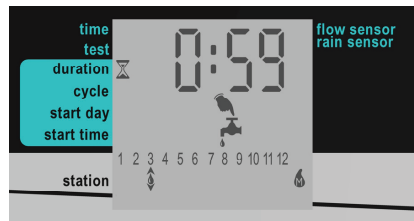

Figure 14: Test Sequence Screen
2. Press and hold **+** until the Test Sequence screen is displayed (Figure 14). The controller automatically begins operating the master station and each of the stations in sequence, for 60 seconds each. The currently operating station is marked with the **▲** icon, and the screen displays the number of seconds remaining for that station's operation test.